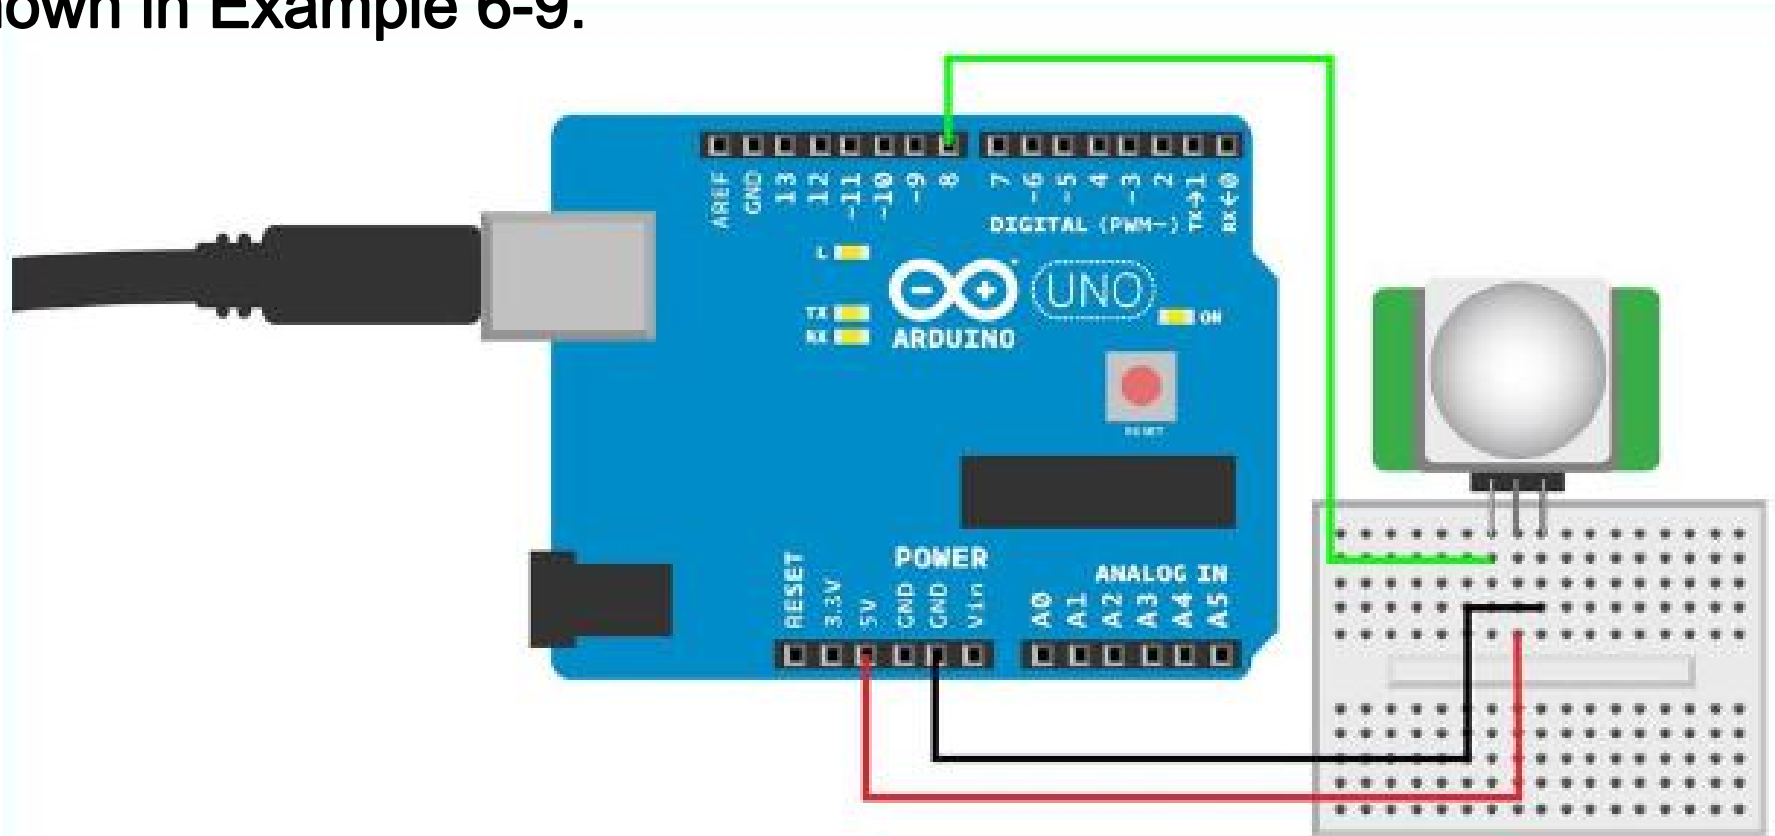

Figure 6-15. Parallax PIR sensor Rev A circuit for Arduino
- Figure 6-15 shows the circuit diagram for Arduino. Wire it up and run the sketch shown in Example 6-9.